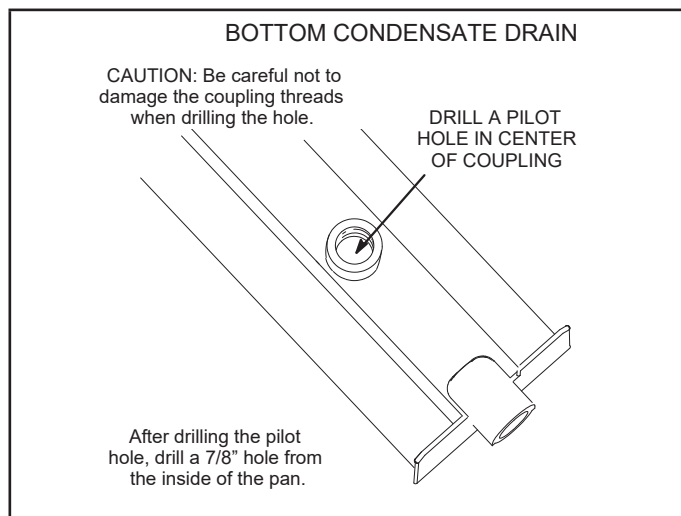

FIGURE 12
- 3 - Turn the drain pan upside down and drill a pilot hole through the bottom of the drain pan in the center of the coupling. See FIGURE 12.